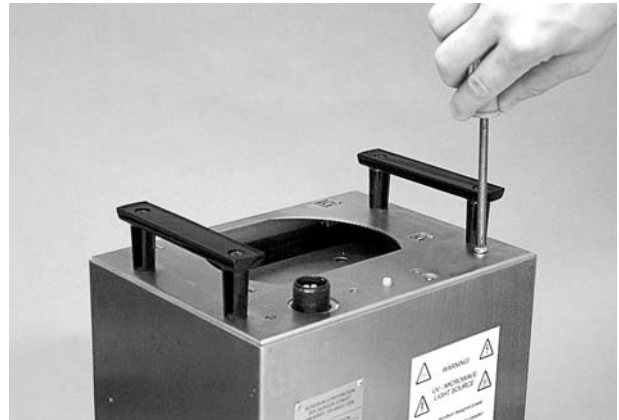

Figure 4-9 Lamphead Cover Removal
5. See Figures 4-9 and 4-10. Remove the 12 screws from the lamphead cover to remove the cover.